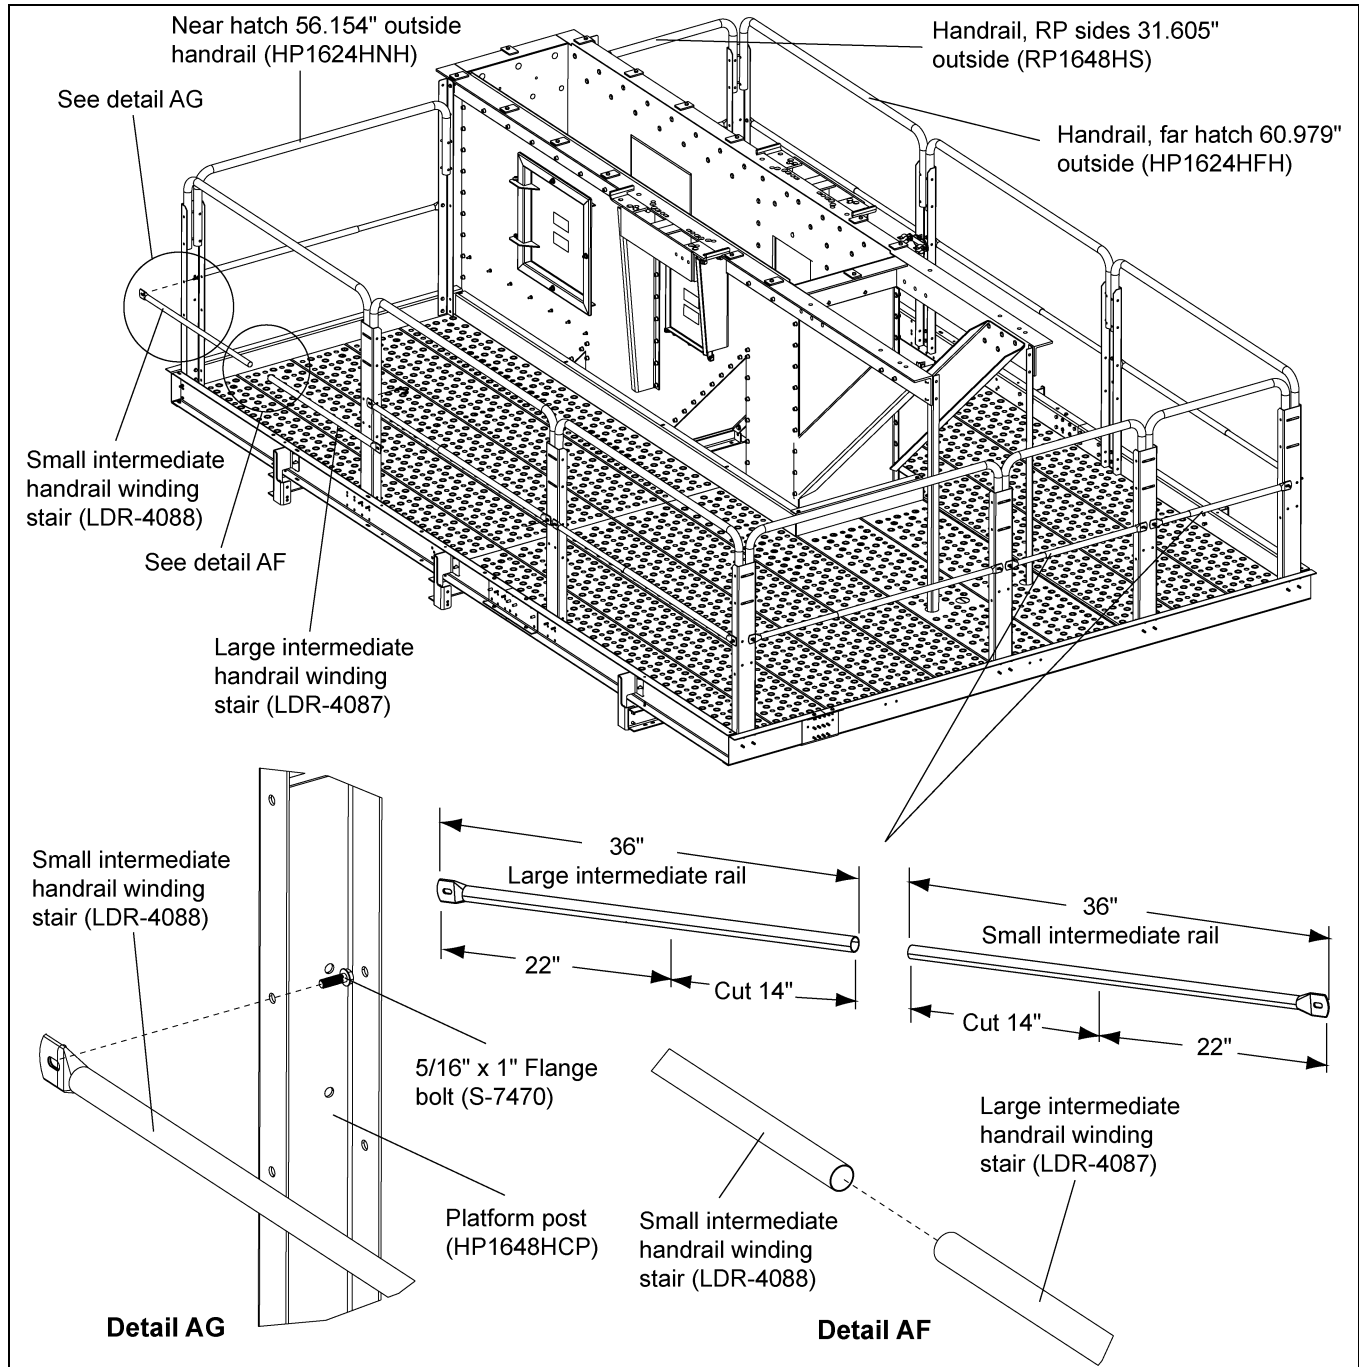

Figure 8Q
1. Cut 14" off the tube end of three (3) small intermediate handrails (LDR-4088) and three (3) large intermediate handrails (LDR-4087). (See Figure 8Q.)
2. Slide the small rail into the large rail and install one set at discharge end and other two (2) sets opposite the discharge end on hatch side and adjust to fit.